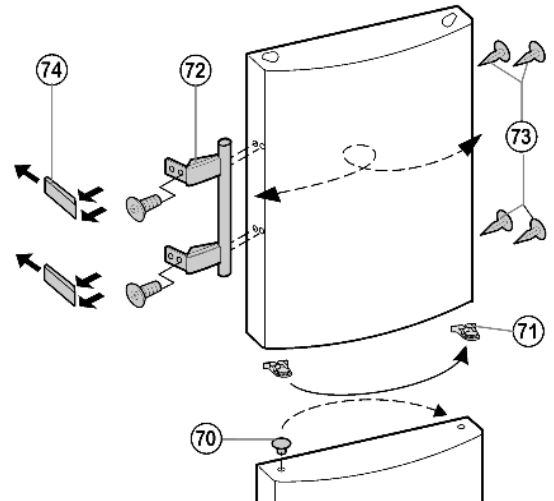

Fig. 18
- ▶ Disengage the spring clip *Fig. 18 (71)* from the upper door and transfer it to the new hinge side.
- ▶ Lift the stopper *Fig. 18 (70)* out of the lower door bearing bush and transfer it.
- ▶ Detach the door handles *Fig. 18 (72)*, stoppers *Fig. 18 (73)* and pressure plates *Fig. 18 (74)* and transfer to the opposite side.